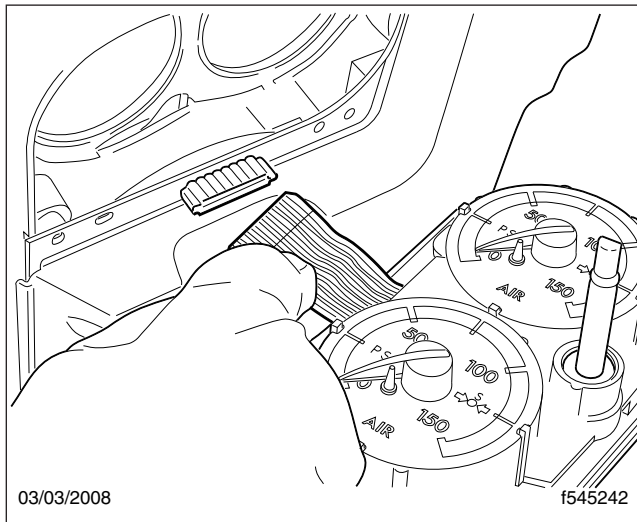

Fig. 7, Disconnecting the Ribbon Cable
2. Separate the air gauge module slightly from the ICU to allow access to the electrical ribbon that connects the module to the ICU. See **Fig. 7**.